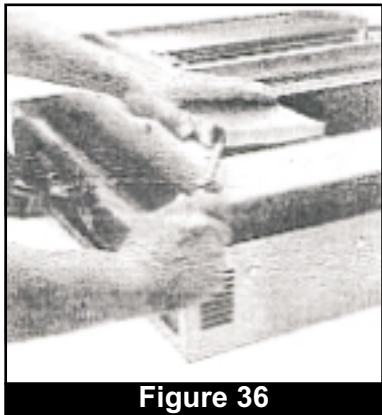

Figure 36
6. Pry off fan blower housing cover (with a flathead screwdriver, if necessary). Without disconnecting wires, set cover on a clean work area. (Fig. 36)